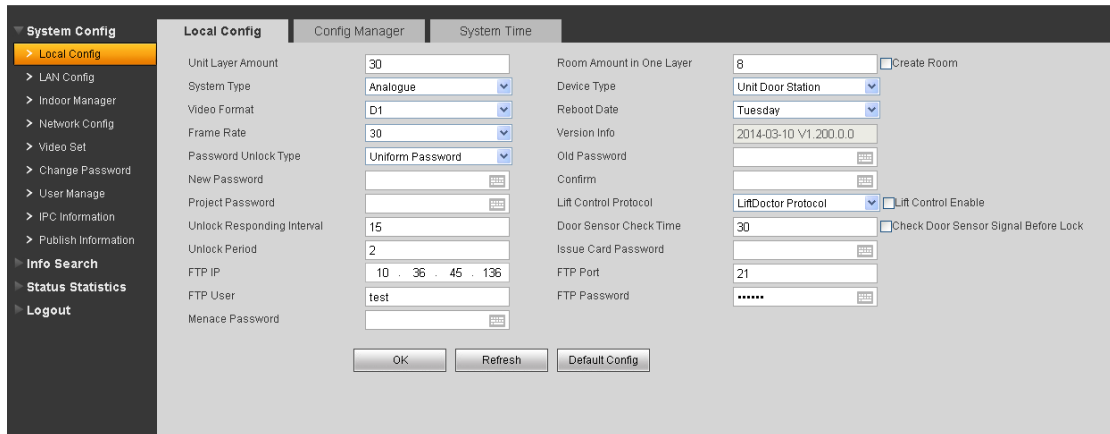

Figure 3- 7
- b) Set system type to analogue, video format to D1 and set frame rate according to environment. Click on OK. See Figure 3- 7.